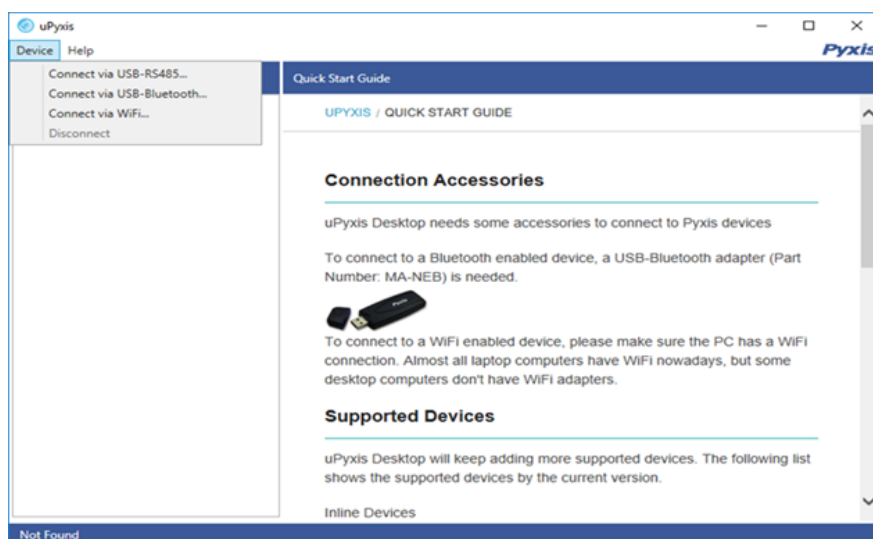
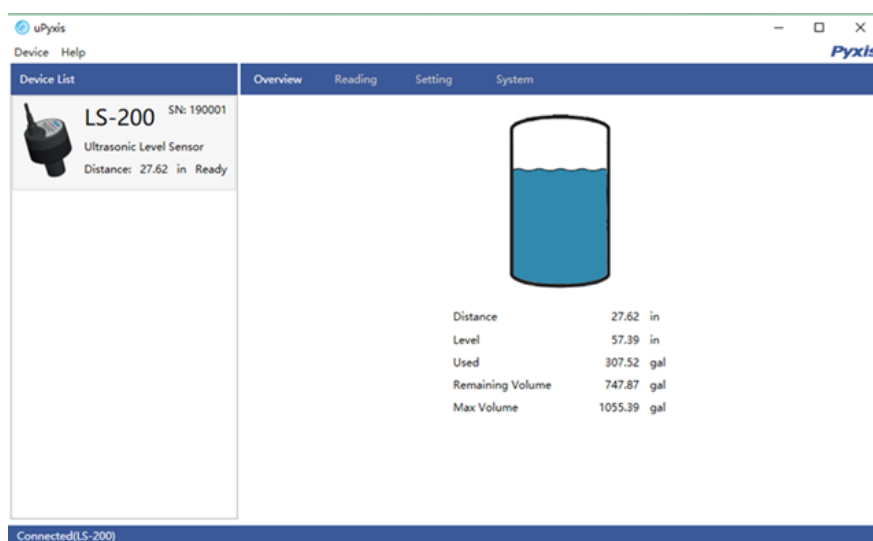

Figure 11. Connect uPyxis® desktop app to LS-200
Figure 12. Definitions of terms
3. On **uPyxis®** Desktop App, click menu Device -> **Connect via USB-Bluetooth** as shown in Figure 11. If the connection is successful, the LS-200 image and its Serial Number will be displayed in the left pane of the **uPyxis®** window as shown in Figure 12.